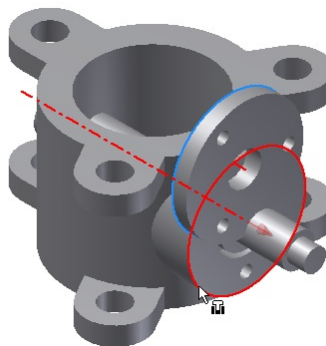

Figure 9-67 *Selecting the edges to apply the **Insert** constraint again*
8. Select the circular edge of the Retainer that is coplanar with the Body as the first edge to apply the constraint, see Figure 9-67. You may have to rotate the model to select this edge.
9. Select the circular edge of the front circular feature on the Body as the second face to apply the constraint, see Figure 9-67. Choose **Apply** to assemble the components and then choose **Cancel** to exit the dialog box.